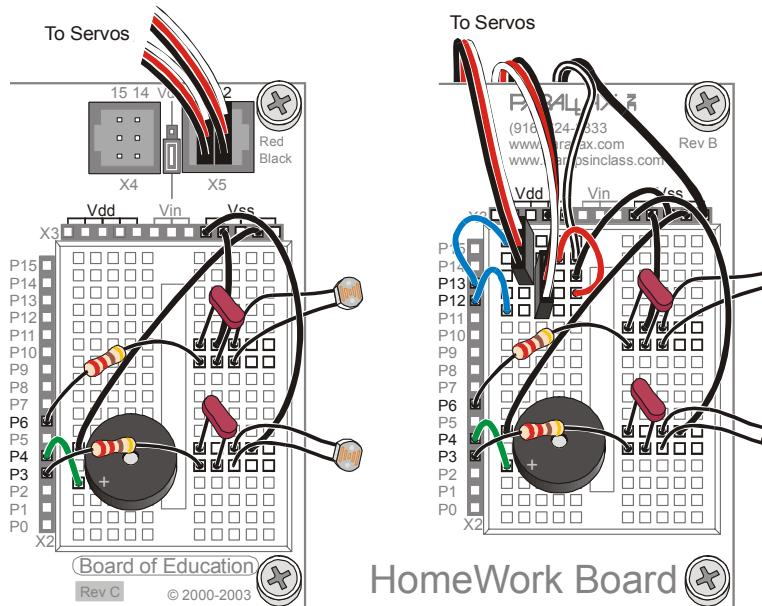
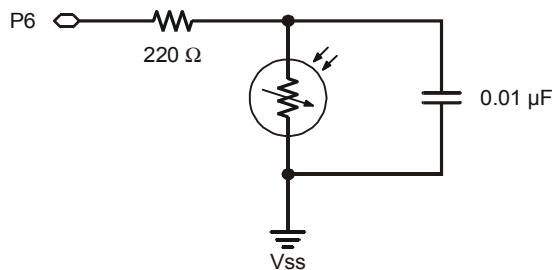

**Figure 6-8**
**Figure 6-9**
The circuit the BASIC Stamp can use to determine light levels is called a resistor/capacitor (RC) circuit. Figure 6-8 shows schematics of the Boe-Bot's RC light detection circuits and Figure 6-9 shows examples wiring diagrams for the Board of Education and the HomeWork Board.
- ✓ Build the RC circuits shown in Figure 6-8 using Figure 6-9 as a reference.